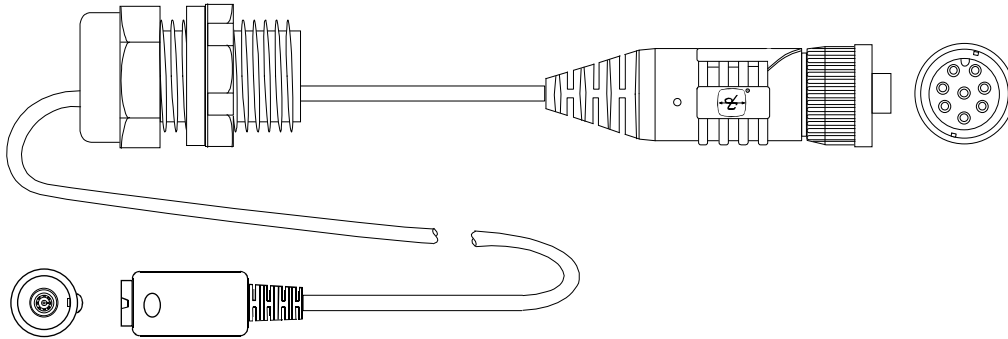

Figure 9: C98-XXLN In-Line Style System Cable
- o Cable fitting & nut included (**Figure 9**)